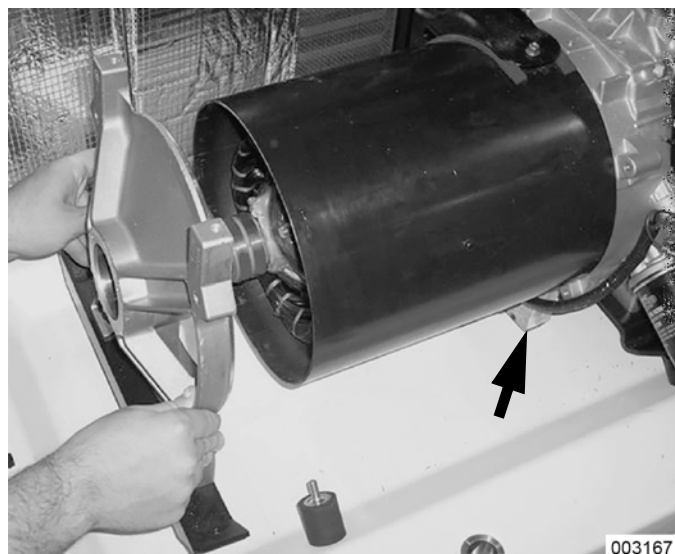

Figure 5-66.
25. See Figure 5-66. Lift the back end of the alternator up and place a 2"x 4" piece of wood under the engine*.